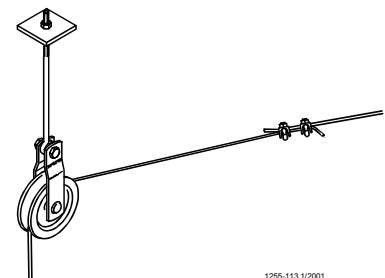
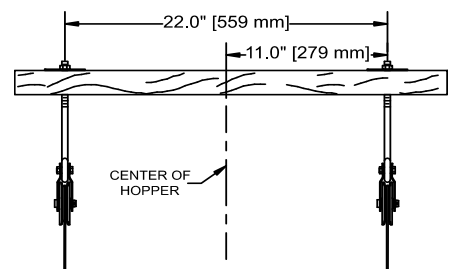

Figure 8. Steel Hopper Suspension
Figure 9. Plastic Hopper Suspension
•Feed Hopper Locations: **When steel hoppers with center suspension are used, see figure 8, the feeder line must be supported within 1' [30 cm] of the feed hopper.** When plastic hoppers are installed only 2 point suspension can be used, see figure 9, this does not require additional supports. See page 15 for plastic hopper suspension. This is in addition to the required Feeder Hopper suspension. After determining the type of suspension system required, decide where the Feeder Line is to be installed. Mark a straight line on the ceiling or rafters the full length of the Feeder Line. Use a string, chalk line, or the winch cable, temporarily attached with staples, to mark the line. Center the line directly over where the Feeder Line is to be installed.